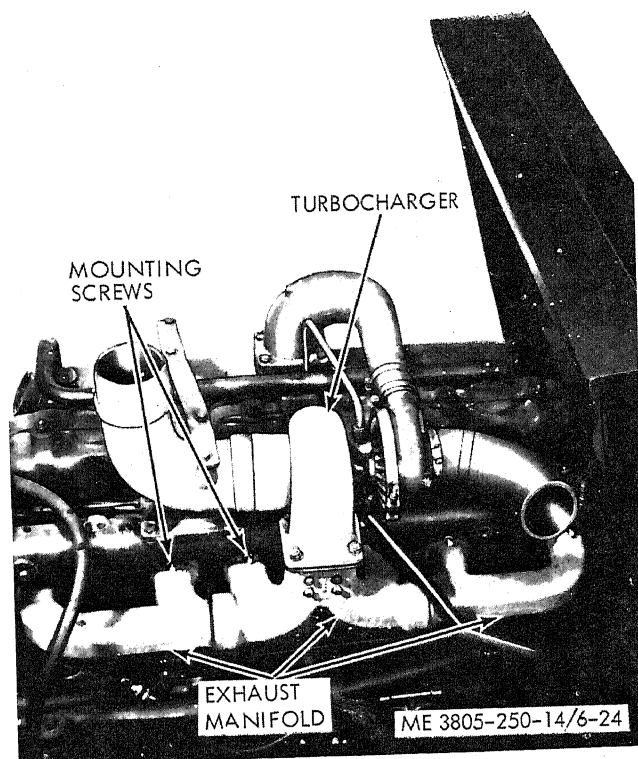

Figure 6-24. Exhaust manifold, removal and installation.
a. Removal. Refer to figure 6-24.
(1) Remove the turbocharger (para 6-7).
(2) Remove twelve screws and washers securing the three exhaust manifold sections to the engine. Discard the six mounting gaskets.
(3) Separate the three manifold sections. Remove the pipe plug from the center section.